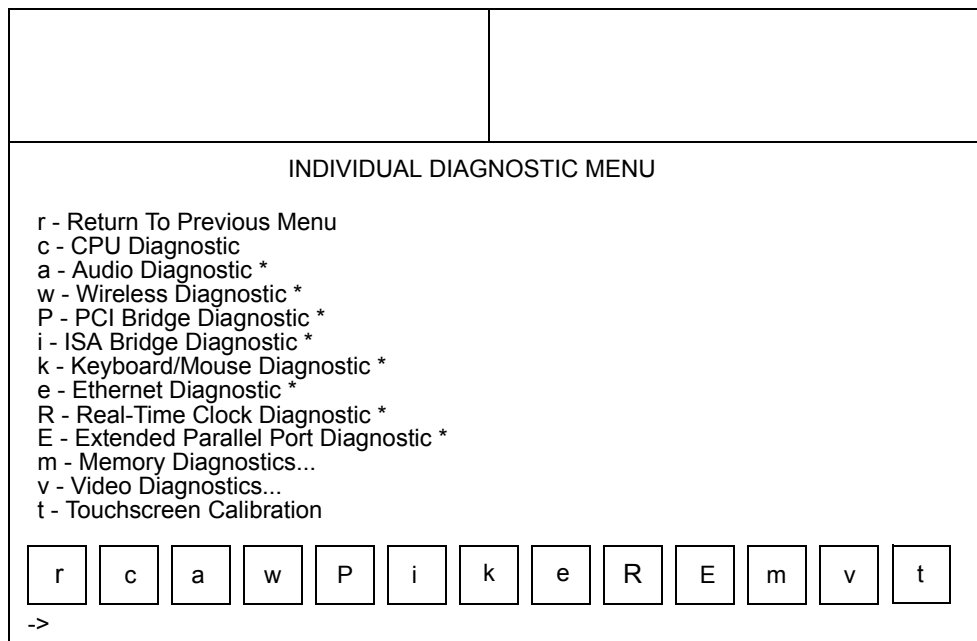

Figure 5-5: Individual Diagnostic menu
- i** — Displays the **Individual Diagnostic** menu. Diagnostics marked with an asterisk indicate tests run by touching the **a** key on the **Main Diagnostic** menu (refer to Figure 5-5 on page 5-13).